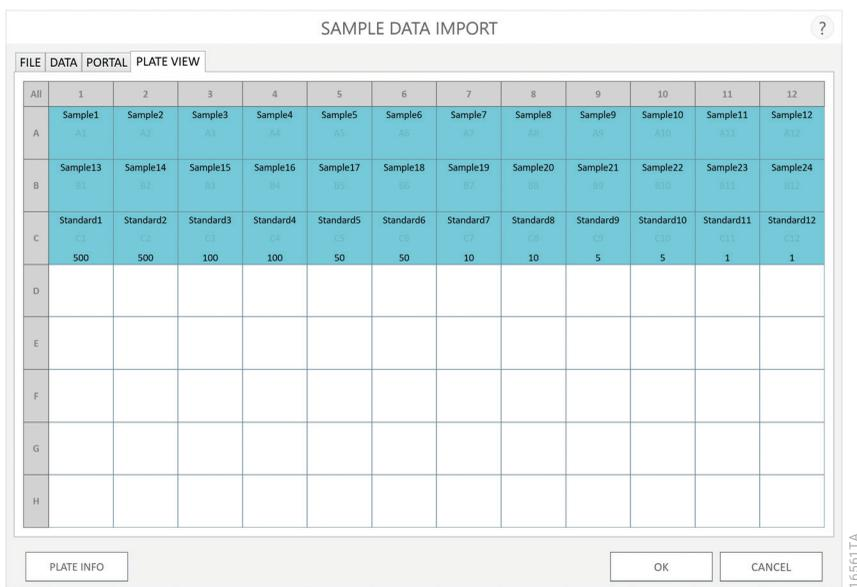

Figure 40. Plate View tab. A graphical representation of the plate map file that was imported. Sample ID and Concentration information are displayed.
8. The Plate View tab is displayed showing a representation of the sample ID and concentration data imported from the file (Figure 40). Sample IDs are shown at the top of the well and any concentration data is shown at the bottom of the well. Three buttons are located at the bottom of the screen: